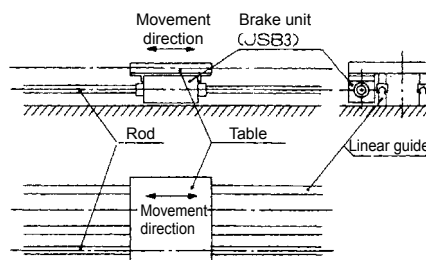

Fig. 1
- As shown in Fig.1, the brake unit is fixed to the table, so keep the rod parallel to the direction of table movement.